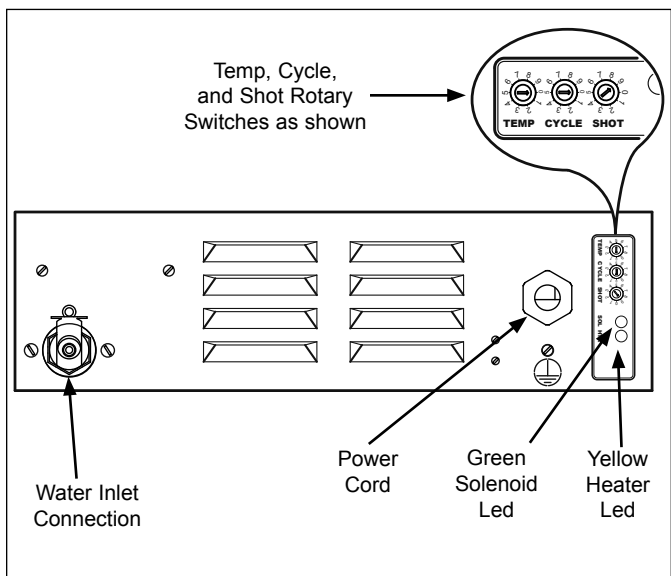

Figure 2. MSS-200 Mini Spatula Steamer (Back View)
3. Connect the outlet hose/fitting from the Dual Water Regulator Kit to the Water Inlet Connection at the rear of the unit (Figure 2).
5. Verify that the Rotary Switches on the back of the unit (Figure 2) are pre-set to: